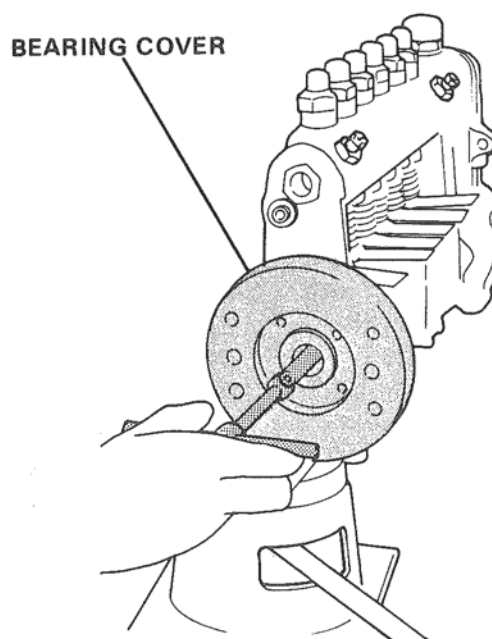

Figure 25. Removing Bearing Cover.
- C. Remove bearing cover and gasket by removing four (4) screws. Figure 25.